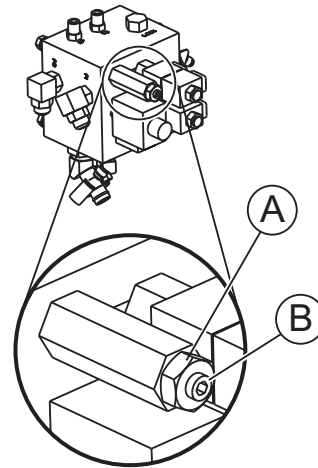

Figure 31. Pitch Pressure Adjustment
3. Loosen jam nut on pitch block relief valve (Item A, Figure 31).
4. Adjust the relief valve (Item B, Figure 31) with allen wrench to proper pressure (2300 PSI).